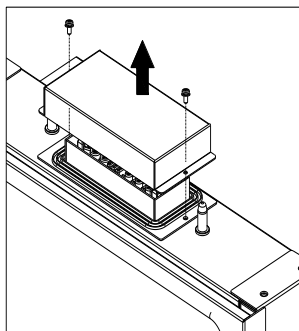

Figure 3-12 Wiring Bulkhead Cover
Step 7 Figure 3-12 to the left side of the wiring box. (see